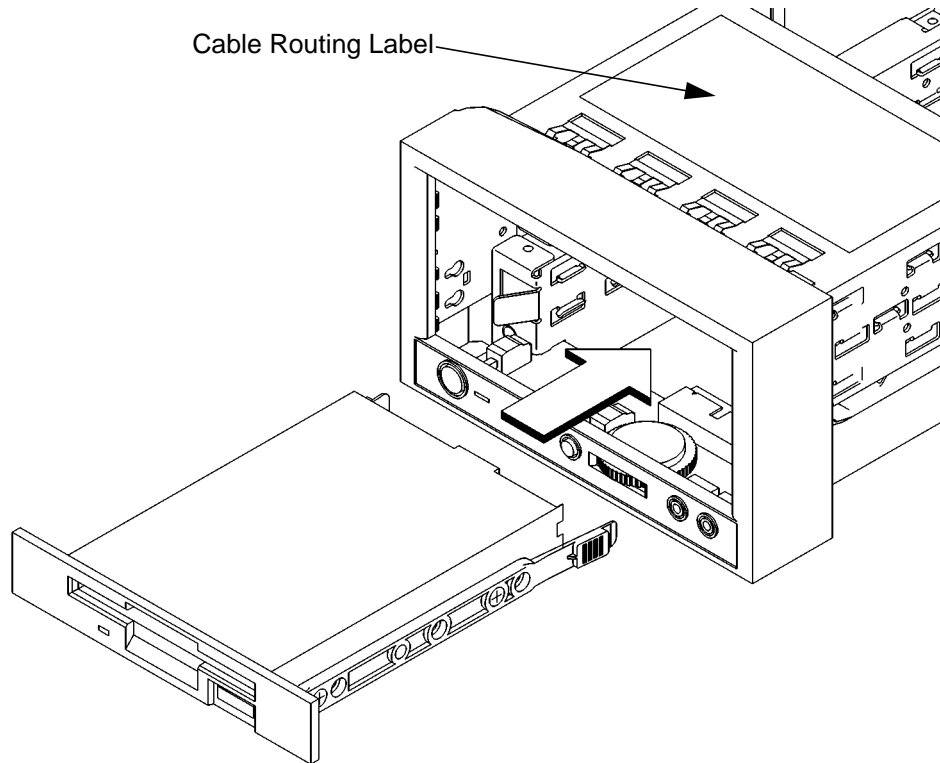

Figure 31 **Installing a Floppy Drive**
Refer to the cable routing label on the storage tray. See Figure 31.
- 4 From the front of the storage tray, line up the disk slides on the floppy drive with the position 2 slots in the storage tray chassis and slide it into place, as shown in Figure 31.